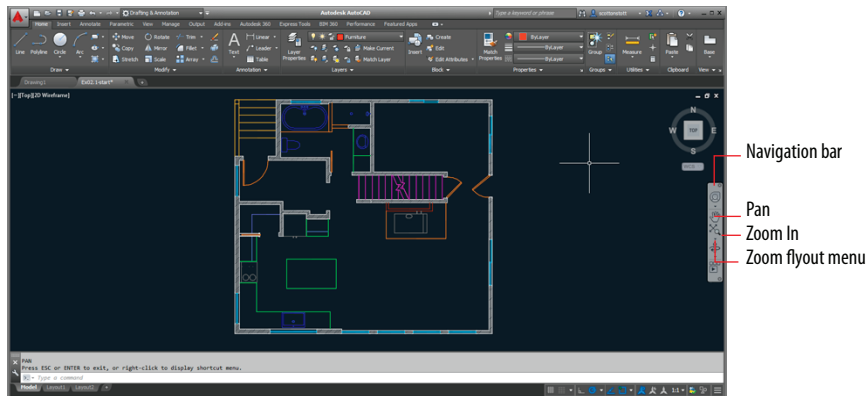

FIGURE 2.1 House sample file
Begin by opening the file the file `Ex02.1-start.dwg` (see Figure 2.1), which is available for download from the book's web page at www.sybex.com/go/autocad2015essentials.
1. Select the Drafting & Annotation workspace. Type **NAVBARDISPLAY** and press Enter. Type **1** and press Enter. The Navigation bar appears on the right side of the user interface (see Figure 2.1).